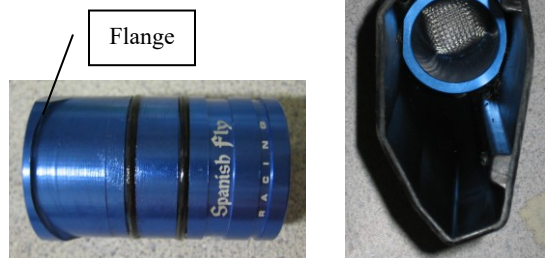

Figure 5 – View of greased spark arrester ready for insertion (Left) and partially inserted in end cap.
- 7) Prior to inserting the spark arrestor into the end cap, lightly grease in and around the O-rings to ease insertion. Figure 5 illustrates the greased spark arrestor ready for insertion (Left). Note the end of the spark arrestor with no flange is inserted into the end cap first, as shown in the (Right) illustration of Figure 5. Also note the orientation of insertion, insert so that the thin edge of the flange